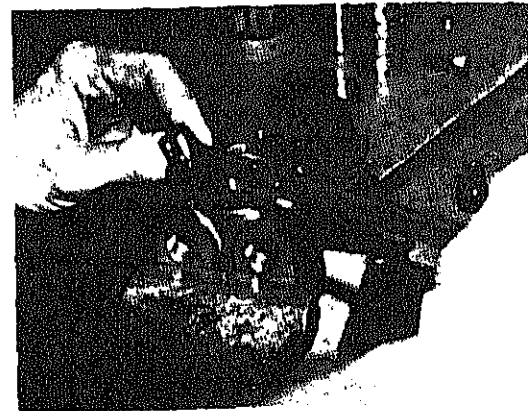

FIGURE 9-36.
c. Torque check seat to 12.5 ft.-lbs. kg-m) (see figure 9-36). Test check ball by pushing ball with small clean pin a spring force. Ball need NOT be snug a seat for proper function.